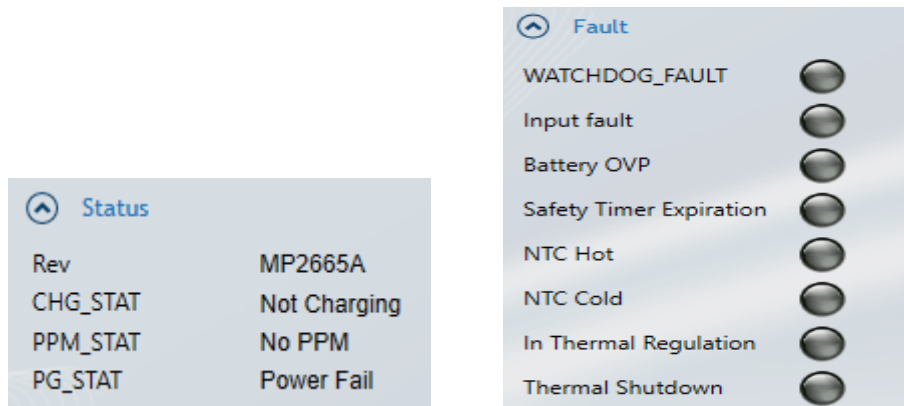

Figure 23: MP2665A Operation Status and Fault Report
19. Figure 23 shows the MP2665A’s operation status and fault report.